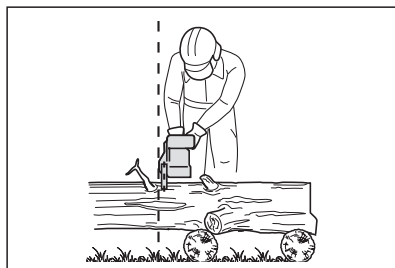

Fig. 7a
2. Always hold the product firmly with both hands. Hold the front handle (1) with your left hand and the rear handle (15) with your right hand. Fully grip both handles at all times during operation. Never operate the product using only one hand.
4. Only use the product with a secure stance. Hold the product at the right-hand side of your body (Fig. 7a).